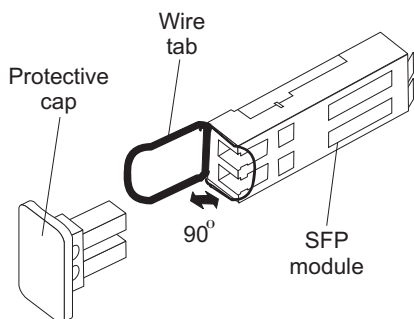

Figure 26. Unlocking the SFP module latch - wire variety
- For SFP modules that contain wire tabs, unlock the SFP module latch by pulling the wire latch outward 90° , as shown in Figure 26 on page 42.